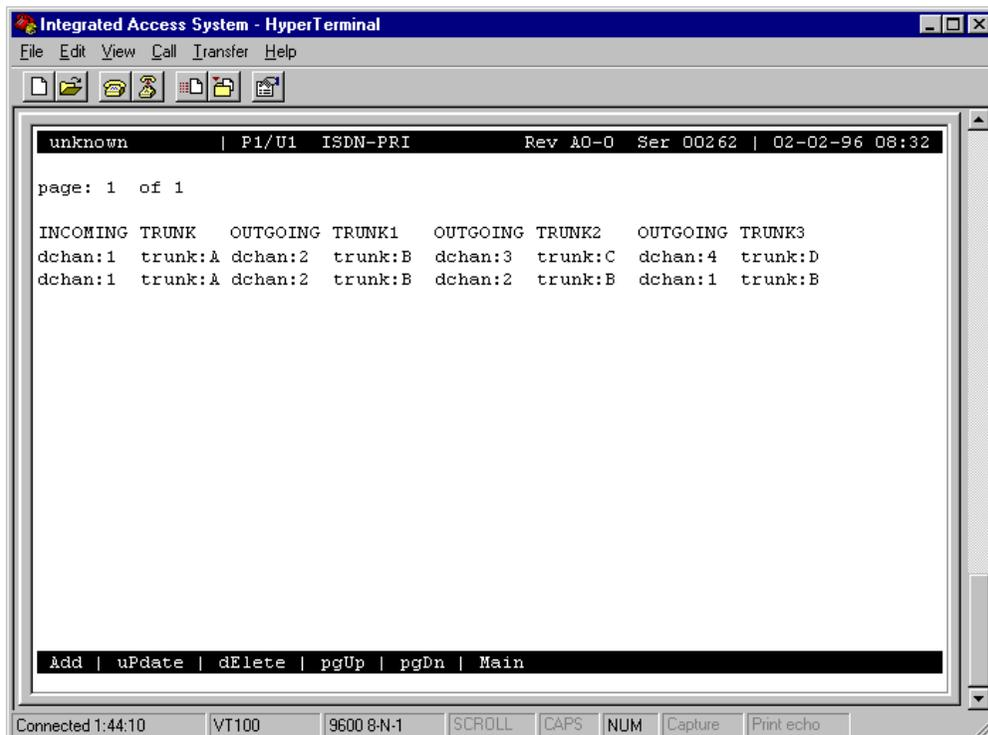

Figure 5-18. Add Trunk Route Screen
**All eight fields must be changed for each new trunk route.** For instance, if you want a single incoming trunk group to be routed to three outgoing trunk groups on three different D channels, the process is easy. In Figure 5-18 the first trunk route shows this configuration. D channel #1, trunk group “A” is to be routed to D channel #2, trunk group “B.” If that route is busy, it will be routed to D channel #3, trunk group “C.” If that route is busy, it will be routed to D channel #4, trunk group “D.” If that route is busy, the unit will drop the call.
Another example of this procedure is shown in Figure 5-18. If you want a single incoming trunk group to be routed to only one outgoing trunk group, D channel #1, trunk group “A” is routed to D channel #2, trunk group “B.” **The alternate routes 2-3 must contain the same information in alternate route #2.** Since this is the only alternative route, if that route is busy, the unit will drop the call.